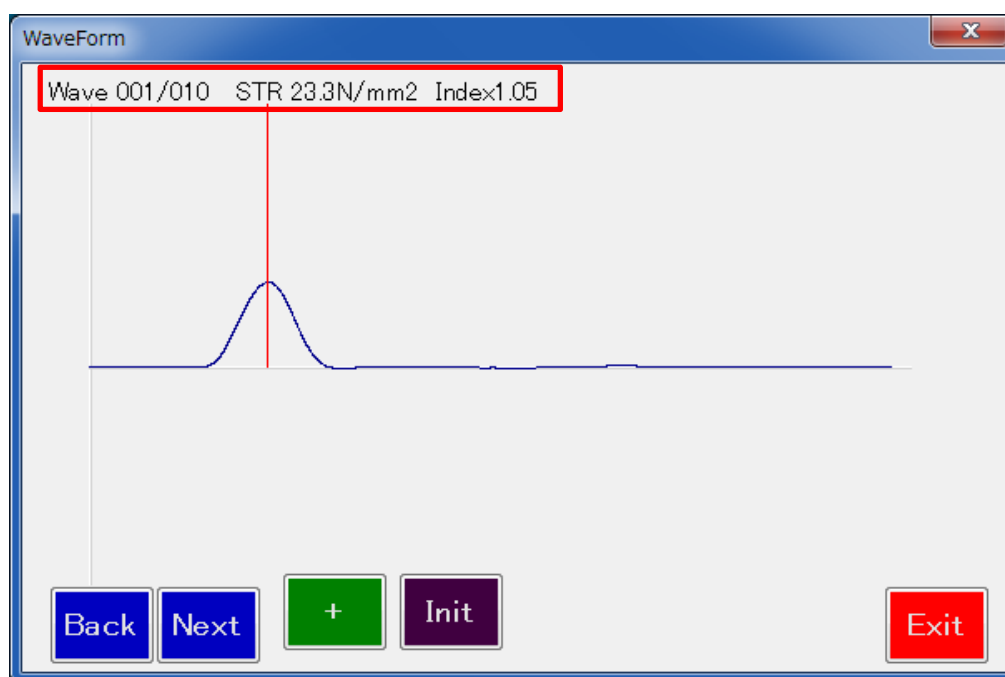

Fig.5.5.3-1 Dialog of Displaying Waveform
- When confirming what parameters were used for the measured data specified by clicking the coordinate number in [X-Y-N/STR/INDEX] list box, click [Show Parameter] button ④.
- When clicking [Show Wave Form] button ⑤, dialog of displaying waveform is appeared as shown in Fig.5.5.3-1.
- The measured waveform number, estimated strength value and Index value are displayed at the top of the dialog (shown in red box of Fig.5.5.3-1).